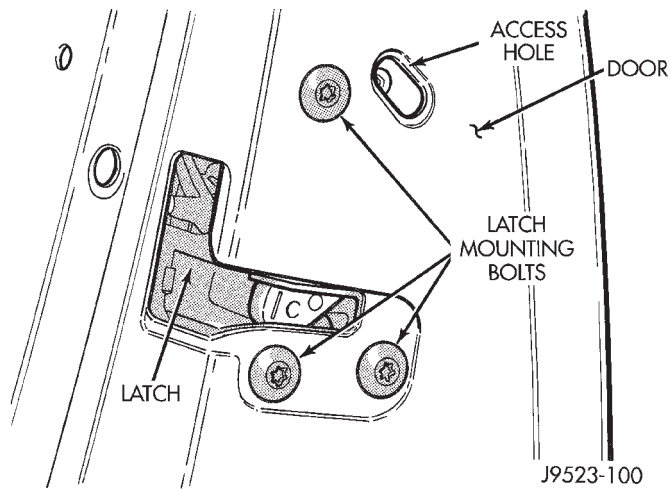

Fig. 99 Door Latch Adjustment
- (1) Locate access hole (Fig. 99).
- (2) Insert a 5/32-inch hex-wrench through hole and into adjustment screw. Loosen screw.
- (3) Operate outside handle button several times to release any restriction because of mis-alignment.